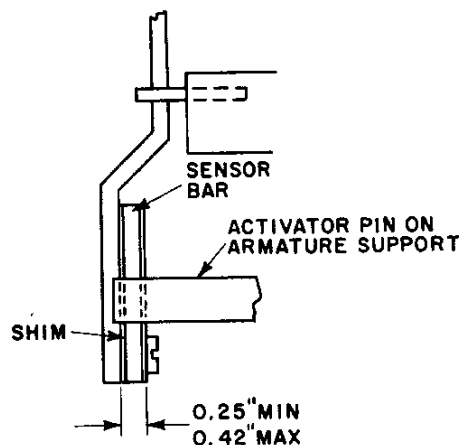

Fig. 39. Overlap of activator pin and sensor bar
2. The engagement of activator pin on armature support with sensor bar should be such that an overlap of 0.25 inch to 0.42 inch exists. If necessary, shims may be used to obtain this dimension (see Fig. 39).